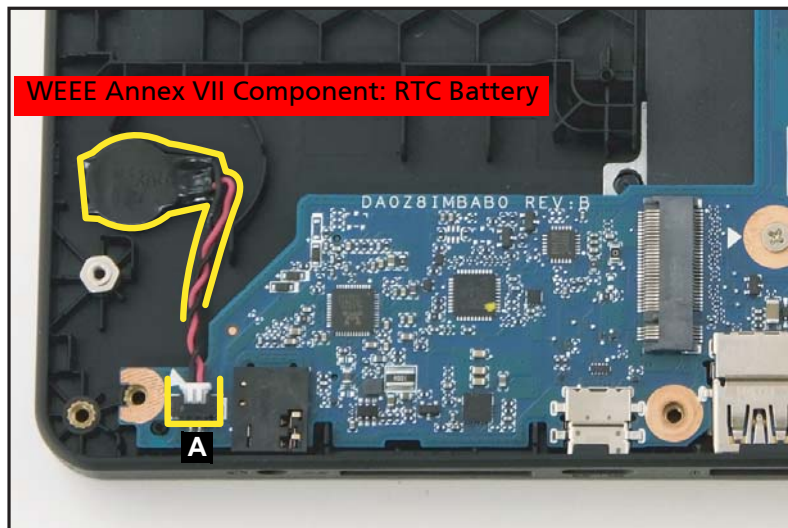

Figure 1-56. RTC Battery Removal
1. Detach the RTC battery cable from the mainboard connector (A) and unrout the cable from the guides on the top assembly (Figure 1-56).
2. Pry to detach the adhesive tape underneath the RTC battery (Figure 1-56).
3. Remove the RTC battery from the top assembly (Figure 1-56).